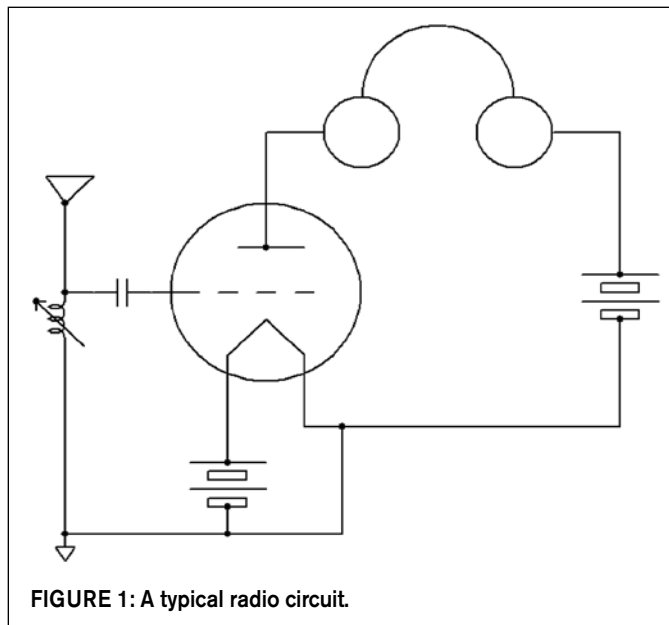

FIGURE 1: A typical radio circuit.
Looking at **Fig. 1** (a typical radio circuit of the day), you may wonder how such a circuit could work. It appears that the antenna is coupled to a tunable inductor that feeds an amplifier tube. There is no capacitor to form a resonant filter circuit. The output of the amplifier tube, which you would assume is all radio frequency (RF) energy, goes directly into the headphones. That is because this schematic is for construction purposes.